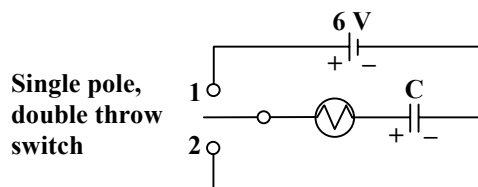

Figure 2-1: Circuit to examine the charging and discharging of a capacitor through a light bulb.
1. Set up the circuit shown in Figure 2-1 using the $23,000 \mu\text{F}$ capacitor. Be sure that the positive and negative terminals of the capacitor are connected correctly (because of the dielectric, electrolytic capacitors have a definite polarity).